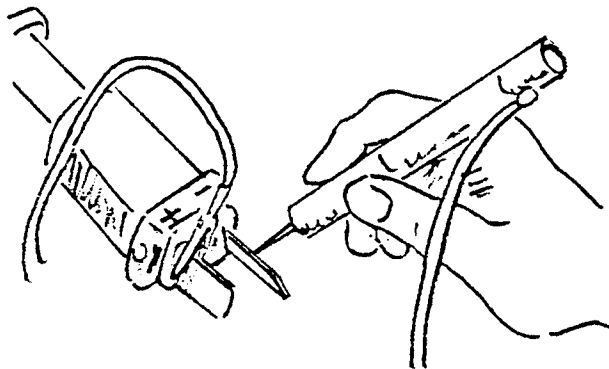

FIGURE 3
- (b) If the circuit in Figure 2 is complete, reverse test tight leads as shown in Figure 3. CIRCUIT SHOULD NOT BE COMPLETE. If circuit is complete, check DC cord for a "short" between the two wires. More probably, one or both diodes have "shorted". Refer to "Fuse Link Blowing" part (b) for continuity test of diodes.
- (c) If (a) Figure 2 and (b) Figure 3 check good, assume the capacitor is shorted. Remove one wire from a capacitor terminal and place continuity tester clip to one terminal and probe to other. If circuit is complete, capacitor is "shorted" and must be replaced.